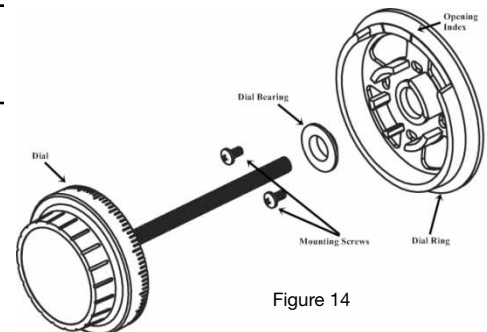

Figure 14
3. Mount the dial ring centered on the through hole, and attach to the safe door using the two mounting screws supplied with the dial assembly. The opening index reference mark must be in the twelve o'clock position (Figure 14).